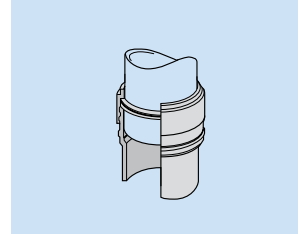

Fig. 71
- Clean pipe with 9101 Cleaning Fluid (Fig. 71).
- **Seal ring ref. 9149 for 108mm metric copper to BS 2871**
- **Seal ring ref. 9145 for 4" imperial copper to BS 659**